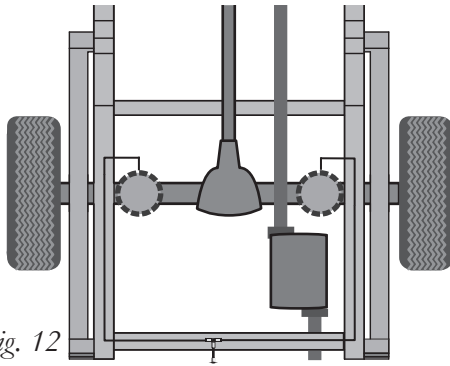
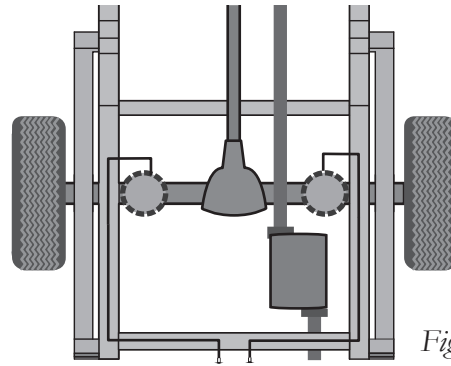

Fig. 12
Fig. 13
1. A single-path air line installation is recommended for vehicles that typically have even weight distribution (Fig. 12). If weight in the vehicle varies from side to side and unequal pressures are needed to level the load, use a dual-path installation. For dual-path air line installations, eliminate the tee fitting (J) and route separate air lines for both air springs (Fig. 13).